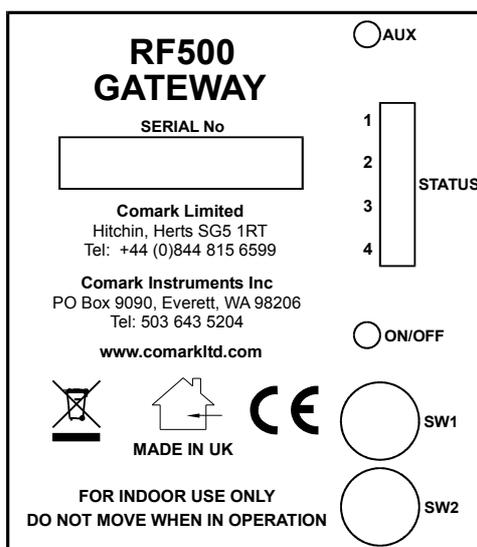

Figure 3 – Left Hand Side View of Gateway
Two relay connectors are provided for external alarms, Autodiallers/Klaxons etc. All other connections to the Gateway are disabled. See Figure 3 – Left Hand Side View of Gateway for further details.
2. Using a paper clip or similar object, press in and hold the ON/OFF switch on the side of the Gateway for 4 seconds. Refer to “Figure 3 – Left Hand Side View of Gateway”. The Gateway will beep once and the Mains/Battery indicator shows steady green. Gateway initialisation will begin.